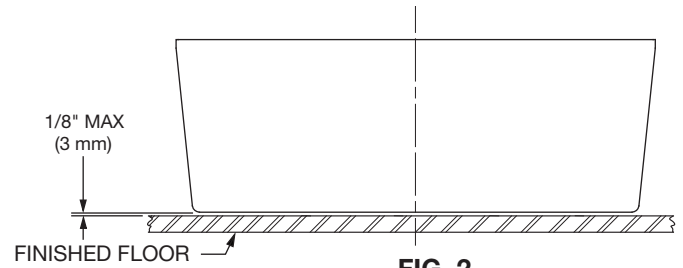

FIG. 2
- Ensure that there is a gap between the tub base and the floor. Gap shall not exceed 1/8" [3 mm]. (See **Fig. 2**)